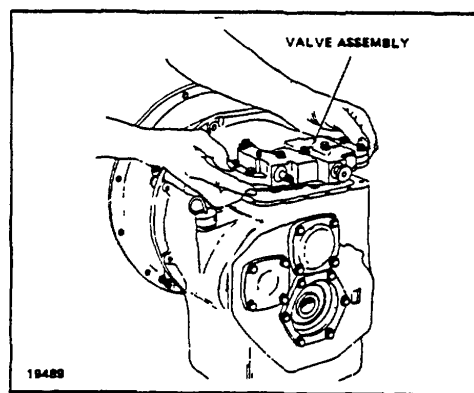

Figure 1-3. Removing Valve Block
- Remove capscrews from valve block, and remove from transmission. Cover opening to avoid contamination. See Figure 1-3.